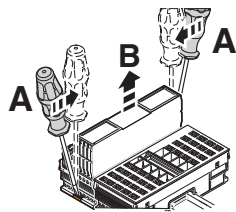
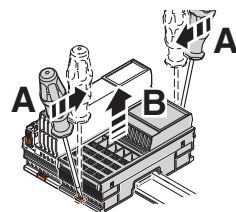

Figure 7-7 Removing the bus coupler
Figure 7-8 Removing an I/O module
- Insert a suitable tool (e.g., bladed screwdriver) in the upper **and** lower snap-in mechanism (base latches) of the module one after the other and unlock it (Figure 7-7, Figure 7-8, A). The base latches are locked in place in the open position.
- Remove the electronics module **vertically** to the DIN rail (Figure 7-7, Figure 7-8, B). The base latches return to the idle position again.